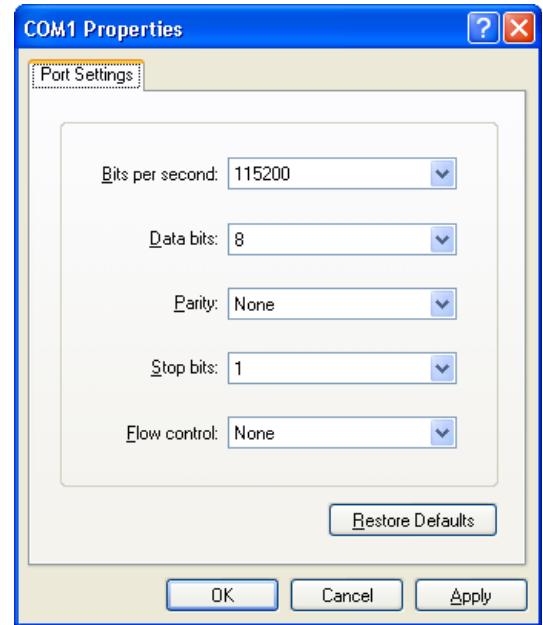

Figure 5: HyperTerminal COM Port Properties
6. On the *Port Settings* tab in the *COM# Properties* window, enter the settings as shown in **Figure 5** and then click **OK**.